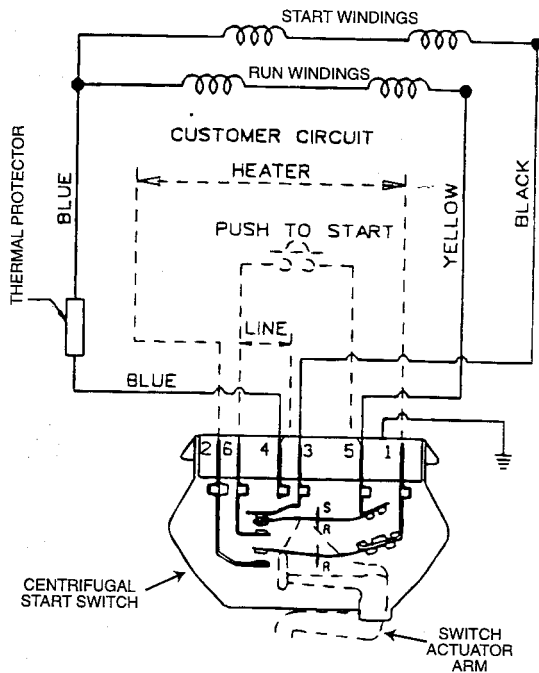

Figure 2-4
With the wire harness connector removed from the motor, and by pressing inward on the brown actuator disc in the motor, the start and run winding can be checked for proper ohms. Placing the leads from an ohm meter on the proper terminals as listed in the following chart. (See Figure 2-4)
Two test leads are required to check operation of the dryer drive motor. To check the motor for operation, hook up the test cord to terminals 4 and 5. (See Figure 2-4)
2. Place ohm meter leads to terminals 1 and 2. (See Figure 2-4)